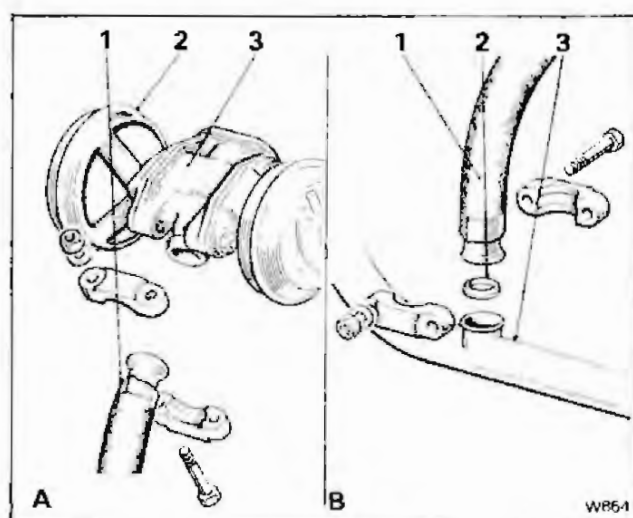

Fig. 2
E.G.R. feed pipe - the feed pipe connects the exhaust balance pipe to the exhaust gas recirculation valves (see fig. 2).